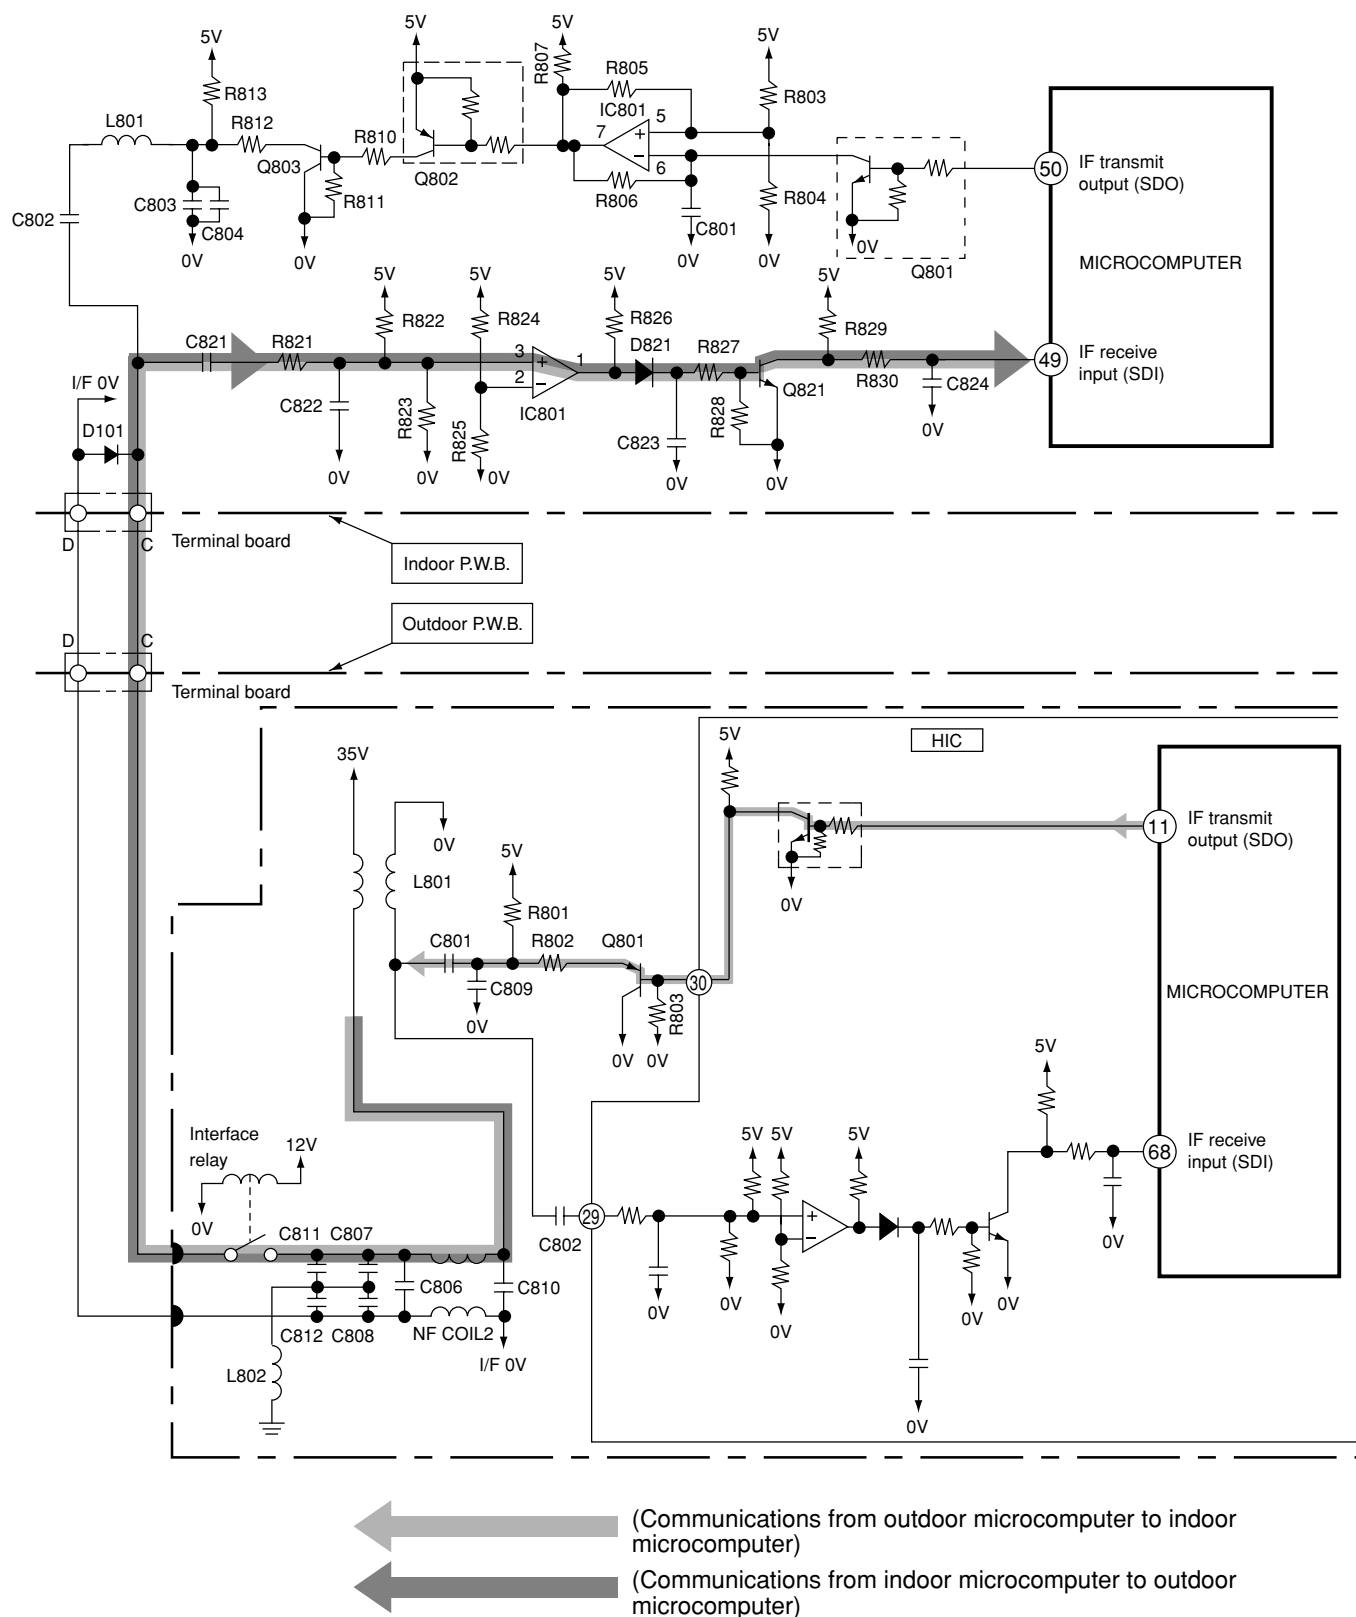

Fig. 2-1 Indoor/outdoor interface Circuit
- Fig. 2-1 shows the interface circuit used for the indoor and outdoor microcomputers to communicate with each other.